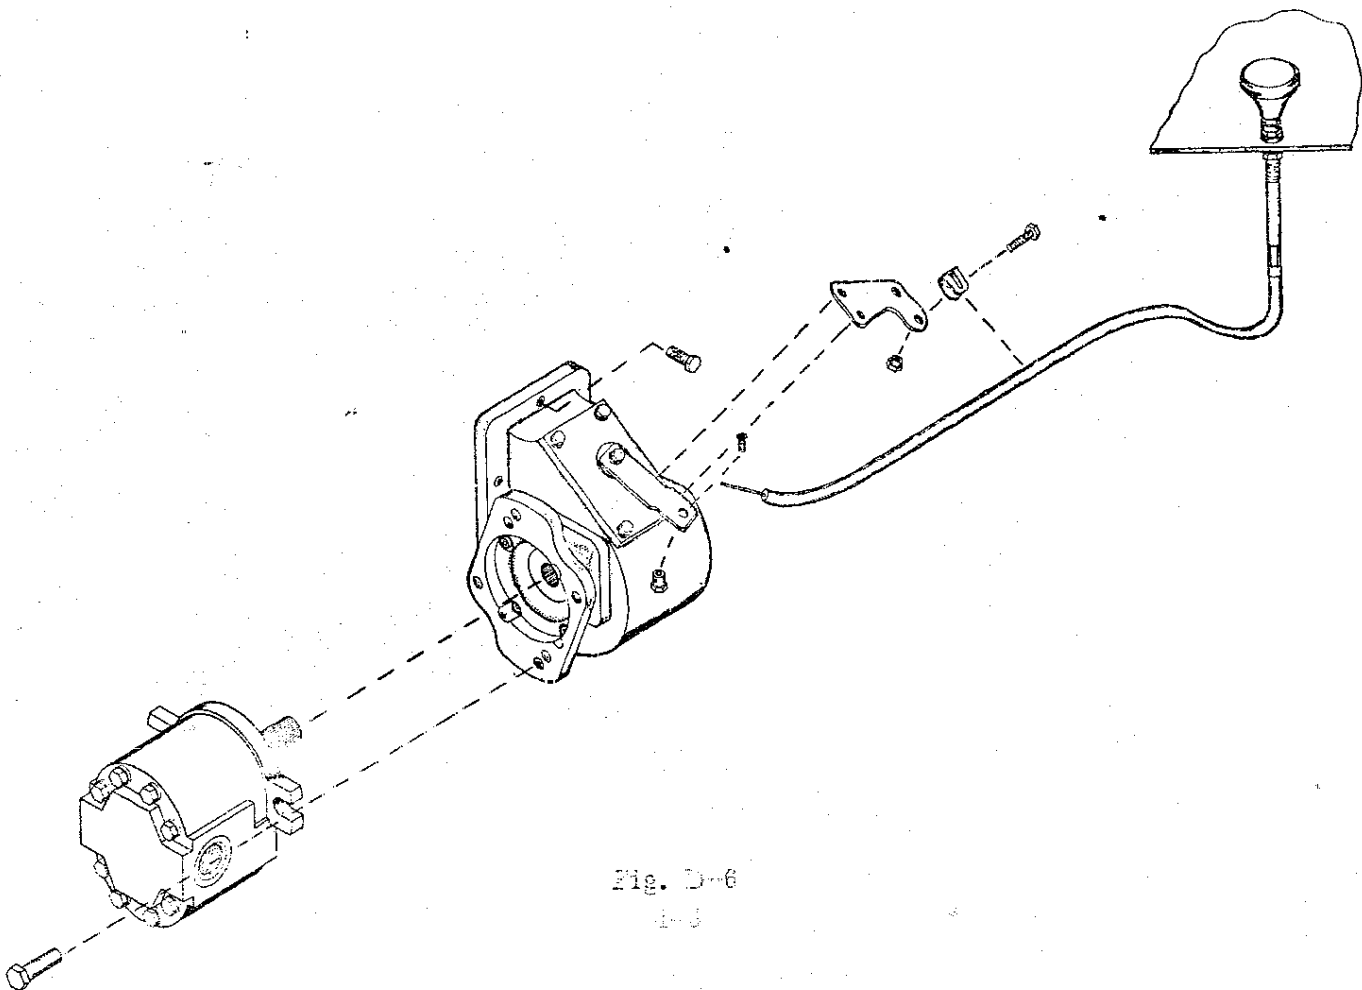

Fig. D-6
3. Install PTO in accordance with manufacturer's instructions (see Fig. D-6 or Fig. D-7 pages 4-6 or 4-7).